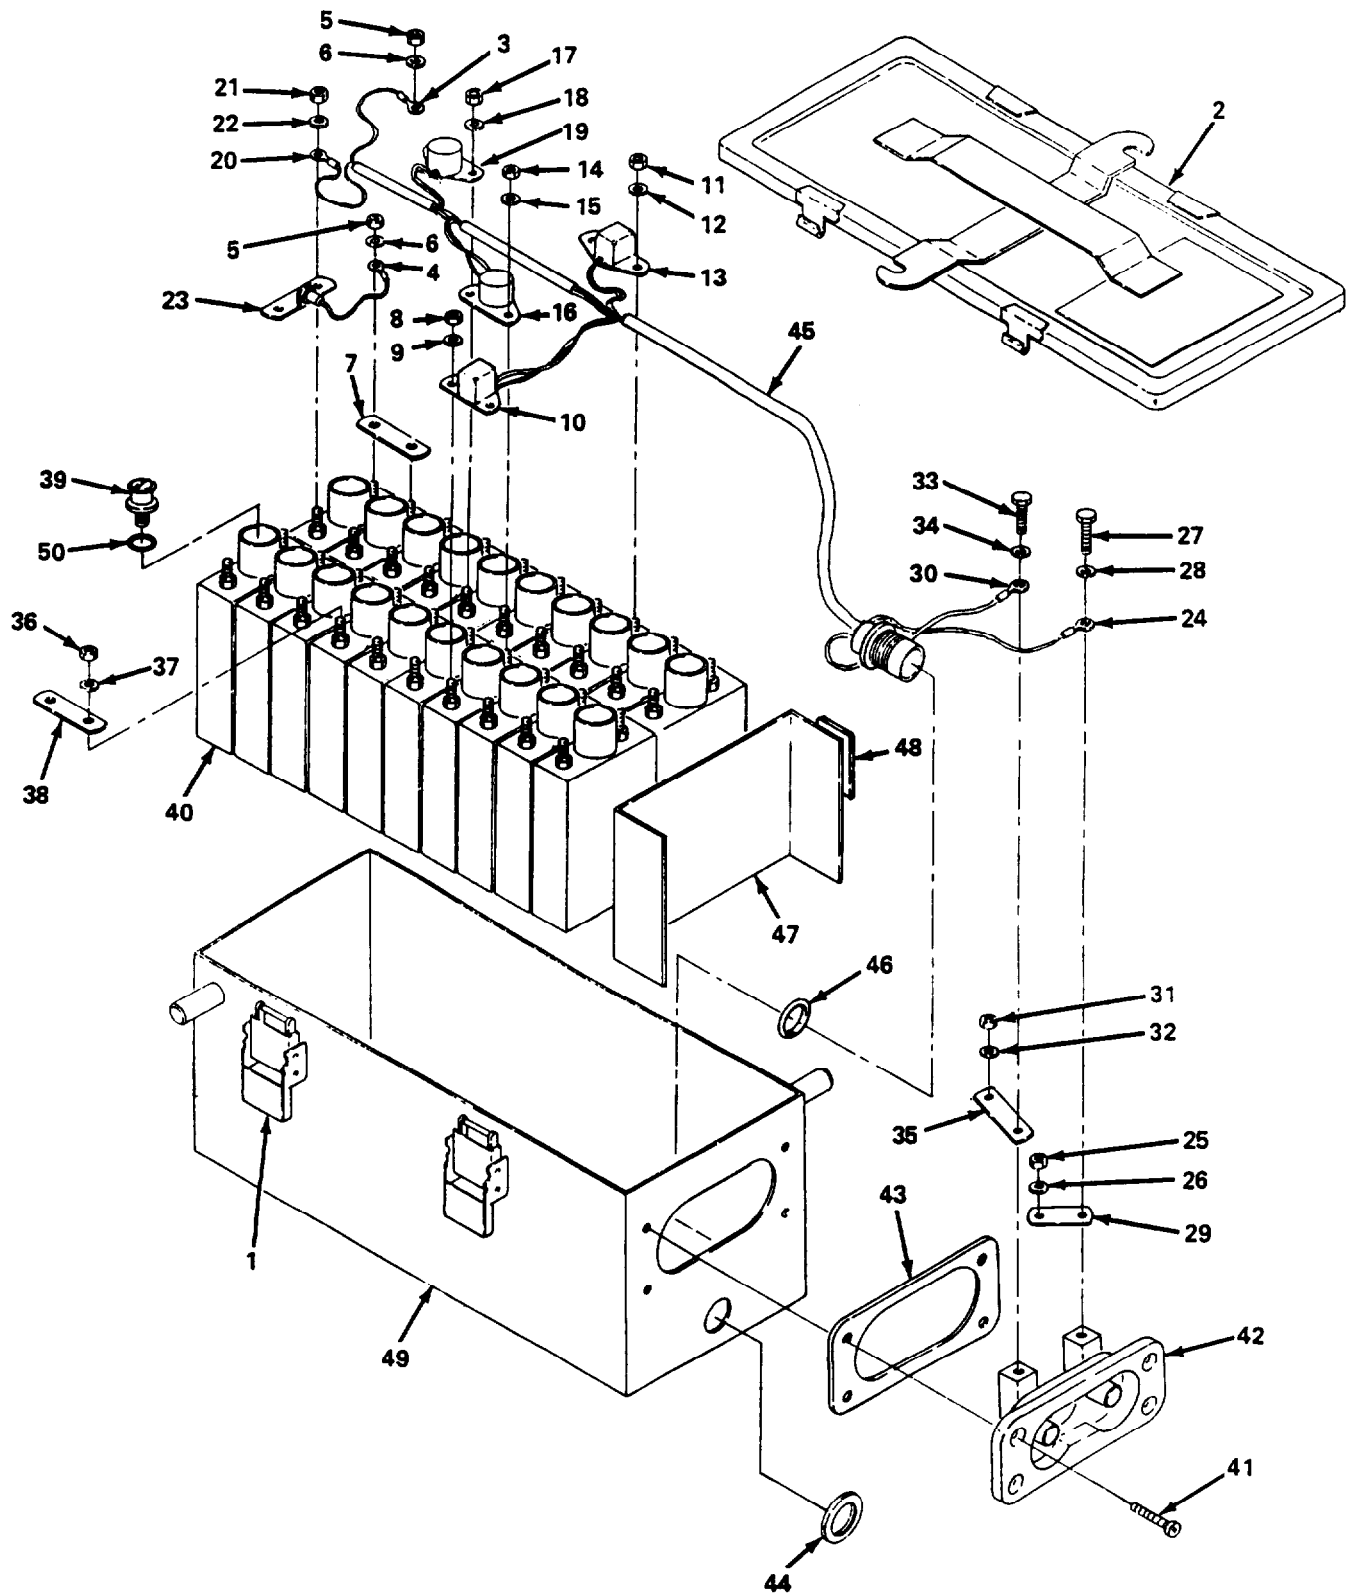

Figure 3-29. Battery BB-716/A (Marathon) Disassembly.
a. Marathon Battery BB-716//A Disassambly/Reassembly (fig. 3-29).
- (1) Unsnap four latches (1) and remove cover (2).
- (2) Discharge battery completely (para 3-10).
(62) Coat terminal links and hardware with corrosion preventive compound (Item 3, Appendix C).
(63) Install cover (2) with four latches (1).
(64) Return battery to administrative storage.
b. Saft Battery BB-716/A Disassembly/Reassembly (fig. 3-29). Disassembly/reassembly of Saft Battery BB-716/A, identified as Saft p/n 19653, is essentially the same as the disassembly/reassembly procedures for Marathon Battery BB-716/A, Identified as Marathon p/n 29147-5 (subpara a., above). Disassembly/reassembly of the Saft battery is obvious by inspection of the battery and referring to figure 3-29.
(1) Discharge the battery prior to disassembly (para 3-10).
(2) Observe all WARNINGS, CAUTIONS, and NOTES contained in the disassembly/reassembly procedures for the Marathon battery (subpara a., above).
(1) Discharge battery (para 3-10).
(2) To remove any of the above Items, refer to the exploded view (fig. 3-29) and the appropriate sections of paragraph 3-27a or 3-27b above.
(3) Upon completion of repair, perform the procedures contained in paragraphs 3-37c, below.